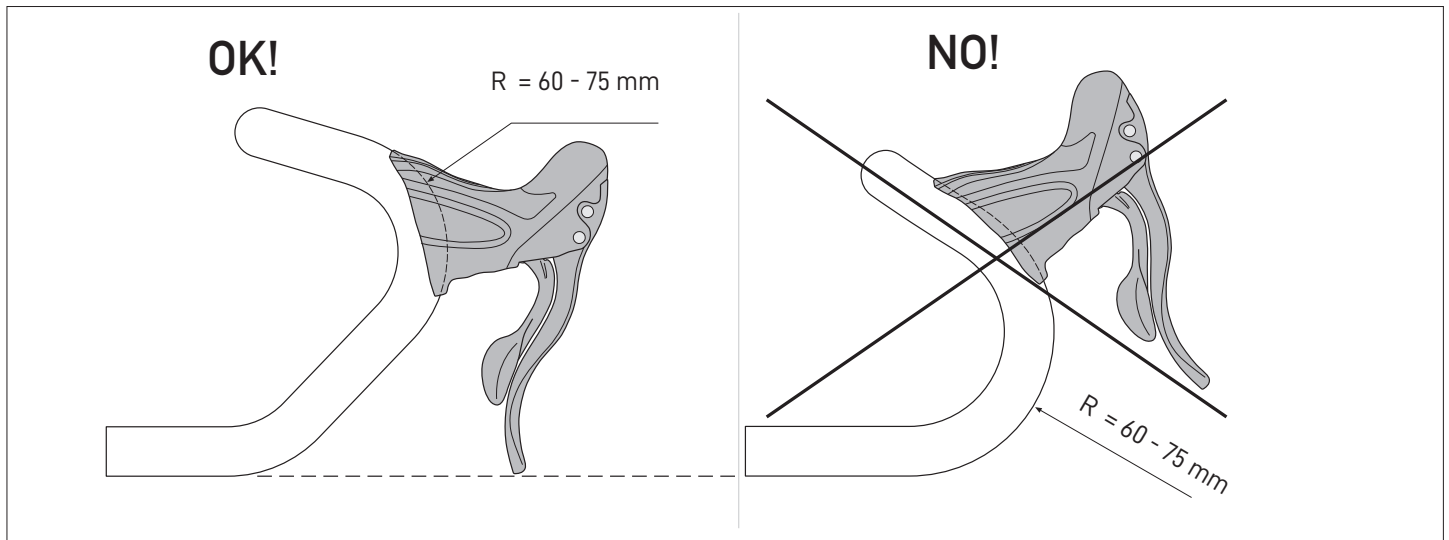

Fig.1
- Do not lodge the upper part of the command in the rectilinear section of the handlebar (Fig. 1 / Fig. 2).
- Lodge the command in the curved section measuring $R = 60 - 75$ mm with a diameter = 23.8 - 24.2 mm (including any ovalization) to guarantee more effective fastening (Fig. 1/Fig. 2).